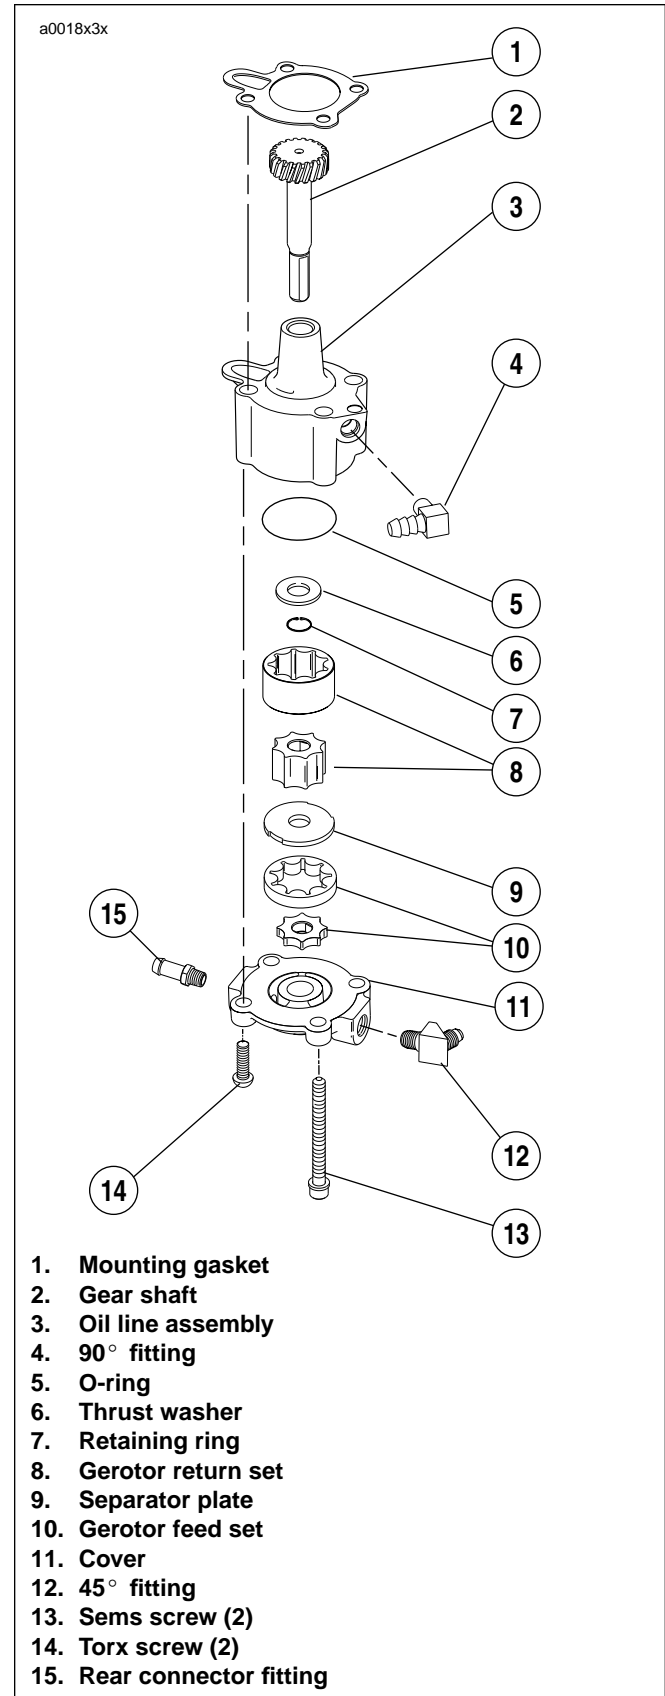

Figure 3-95. Oil Pump
See Figure 3-95. The oil pump consists of two gerotor gear sets, feed and return, housed in one pump body. The feed set distributes oil to the engine, the scavenge set returns oil to the tank/frame reservoir.
See Figure 3-95. Gravity-fed oil from the oil reservoir enters the pump through the feed hose connector. It is forced by the gerotor feed set through a hose to the oil filter. Return oil from the flywheel compartment is drawn back into the pump and is forced by the gerotor scavenge set back to the oil reservoir.
8. See Figure 3-95. Slide both pieces of gerotor feed set, separator plate and both pieces of gerotor scavenge set off gear shaft.
1. See Figure 3-95. Install gear shaft through body. Position thrust washer over end of shaft. Install **new** retaining ring into groove in shaft.
6. See Figure 3-95. Place gerotor feed set over gear shaft.